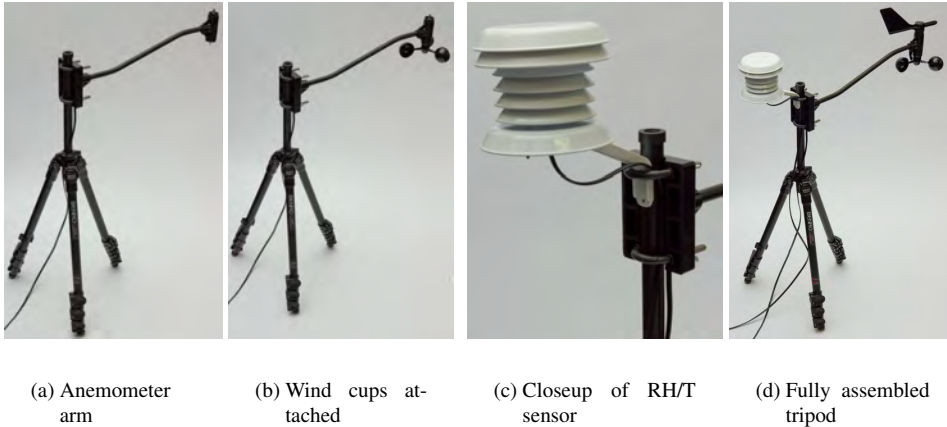

Figure 4.3: Setting up the weather sensors
3. Slide anemometer over extended tripod center column. The larger post (or wind vane if assembled) should be on top. See figure 4.3(a).
5. Insert RH/T sensor arm between center column and upper U-bolt. Run cable through U-bolt. See figure 4.3(c) for a detailed view.
7. Attach the wind cups to the lower post on the anemometer. Make sure they are pushed up as far as they can go. See figure 4.3(b).